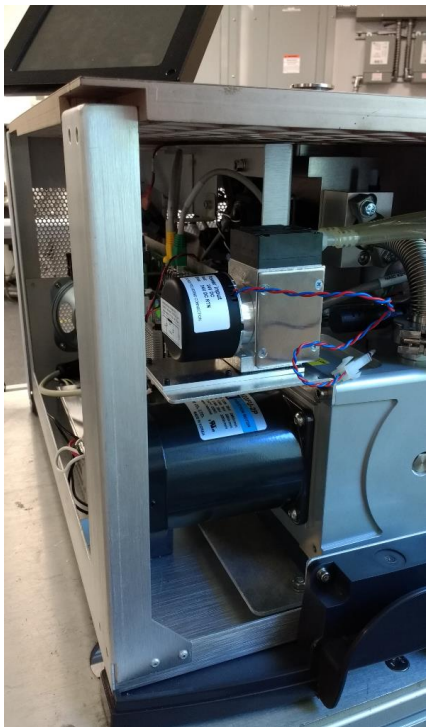

Figure 15: Covers
3. Using a slotted screw driver, remove the covers (Figure 15: Covers).